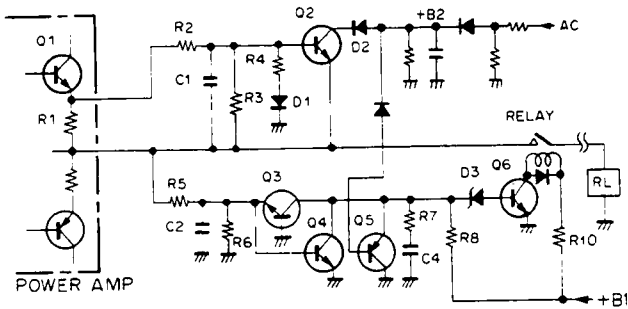

Fig. 4-24 Protection Circuit
With reference to Fig. 4-24 when the power supply is turned on, Q5 turns off due to +B2 (The time constant of the +B2 circuit is very small.). If there is no input (DC) on Q3 and Q4, they will be off, and the timing capacitor C4 charges up through R8 and R7, and thus Q6 turns on. When Q6 conducts, the relay operates, and the output muting on the power amplifier will be removed.